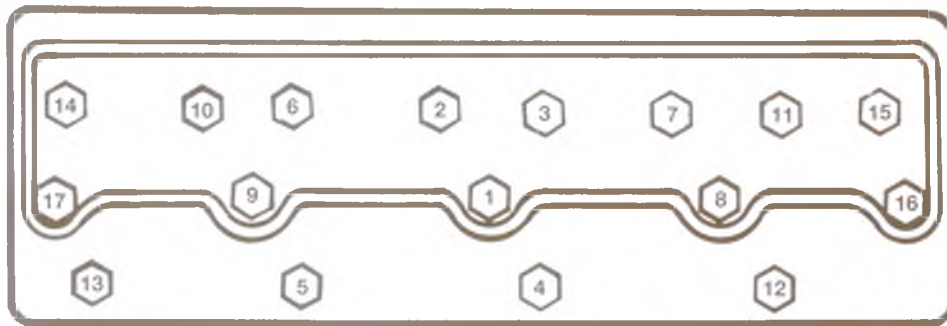

Figure 2-20, Cylinder Head Bolt Tightening Sequence
9. Follow this tightening sequence (refer to Figure 2-20):